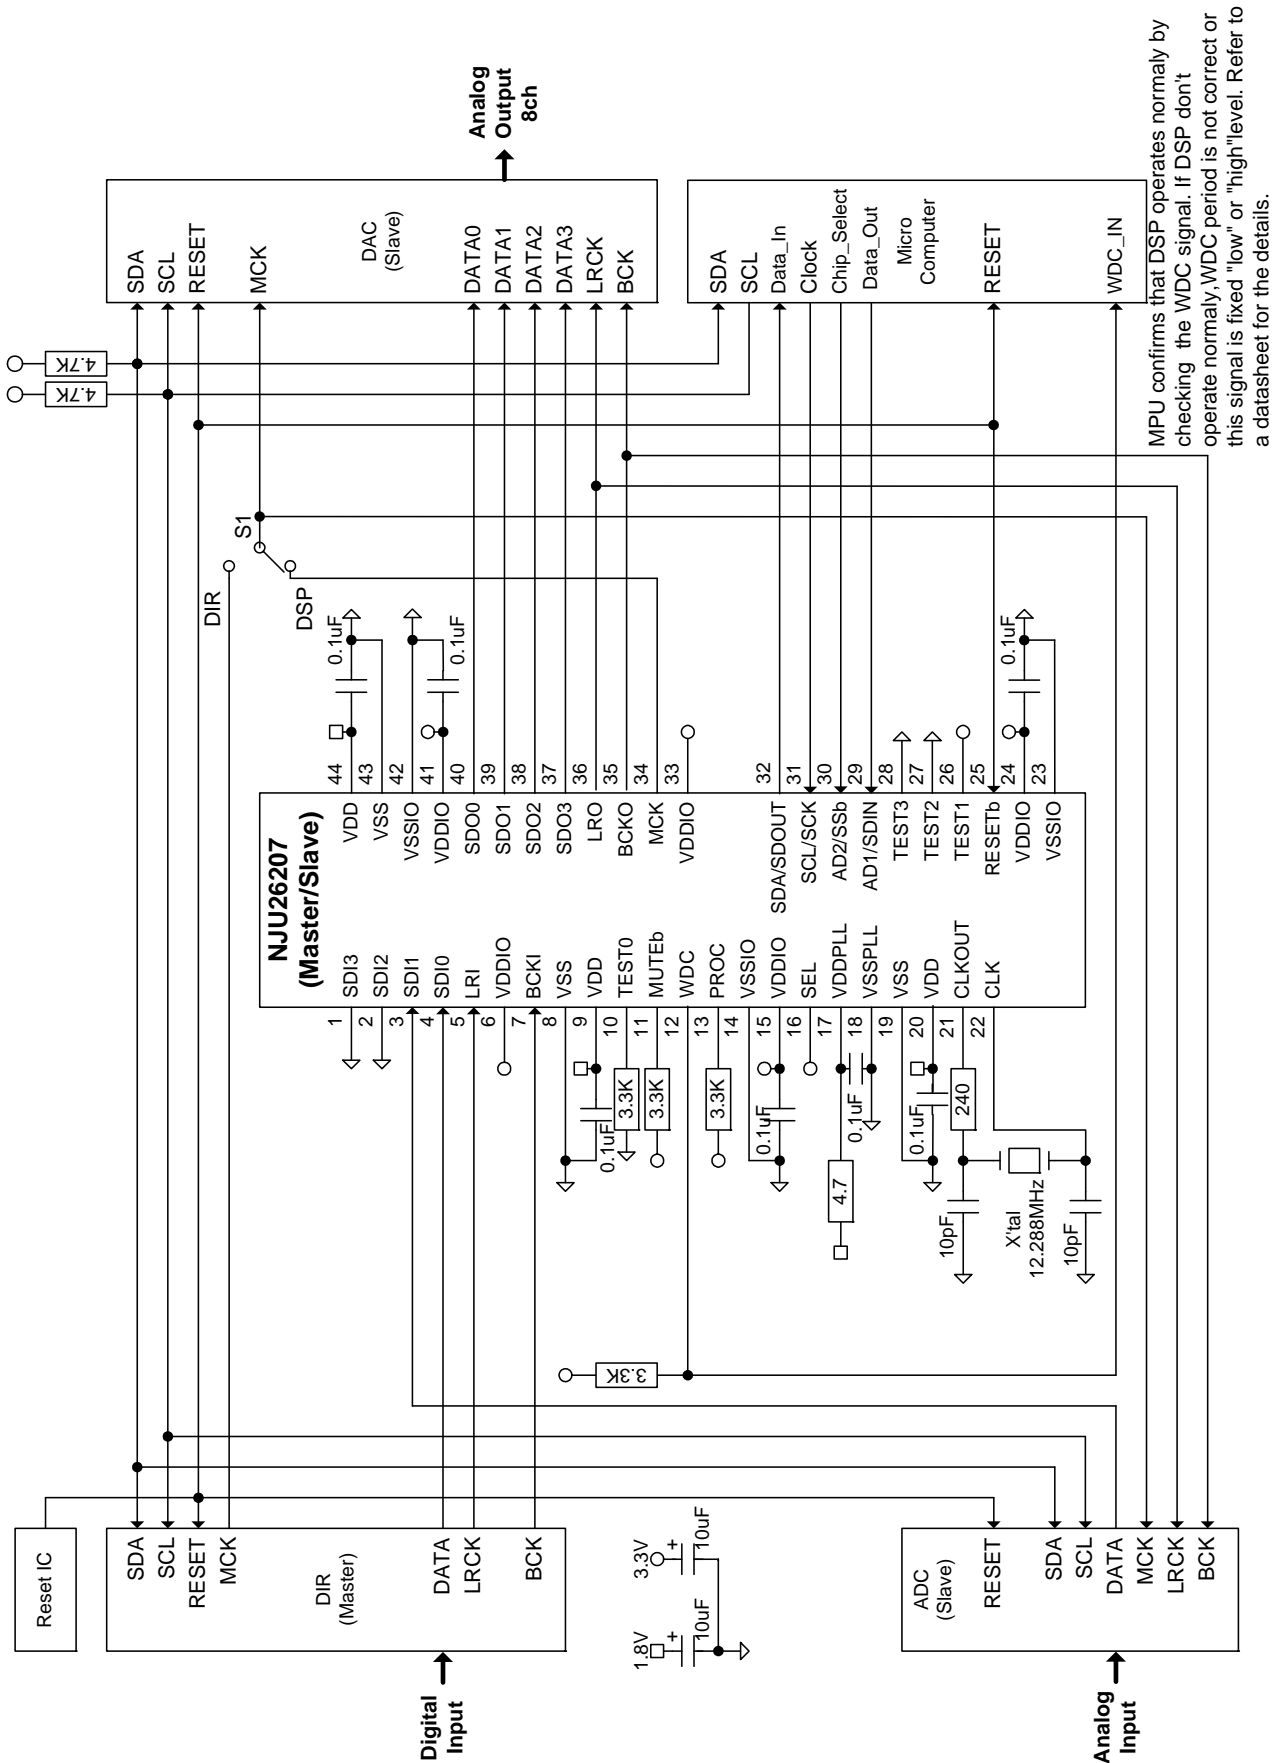

Figure 6. Application circuit 4: NJU26207 with DIR, ADC and DAC (4-wire Serial Bus)
Note3: The ADCs and DACs operate in Slave mode in the Figure 3 to Figure 6.
The Figure 6 shows the circuit with DIR, ADC, DSP and DAC.
- 1) The DSP employs three kinds of power supplies, core ( $V_{DD}$ ), PLL ( $V_{DDPLL}$ ), and IO ( $V_{DDIO}$ ). The  $V_{DD}$  and  $V_{DDPLL}$  are 1.8V. The  $V_{DDIO}$  is 3.3V. The input terminals accept 5V signal. The Figure 3 to Figure 6 circuits assumes that the peripheral ICs employ 3.3V power supply. Then the DSP can connect to the peripheral ICs directly.